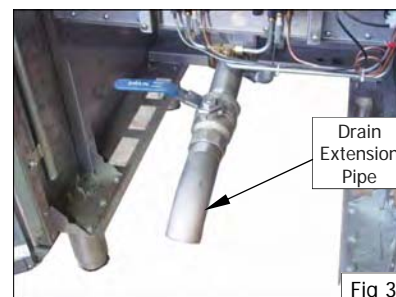

Fig 3
3. Screw drain extension pipe onto end of drain valve (see Fig 3) and position a suitable container and filter under drain extension pipe.